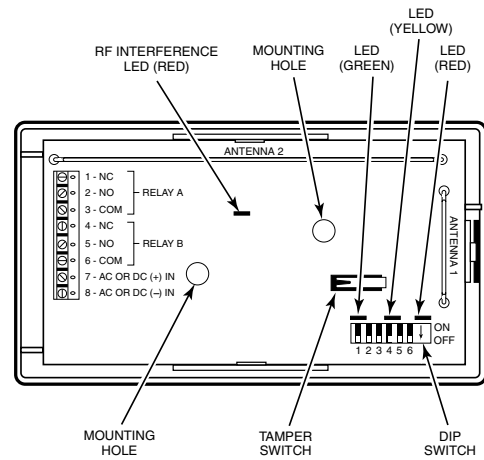

Figure 2. 5800RL Diagram
Use the following guidelines when selecting a mounting location for the 5800RL Relay Module (see Figure 2):
2. Using the 5800RL base as a template, position in the desired location and mark the two mounting holes. See Figure 2 for mounting hole locations.
The 5800RL contains two relays (Figure 2) (SPDT, rated 2A, 28VAC/VDC) that may be used to activate remote sounders and/or remote arm/disarm indicators. There are three LEDs (green, yellow, red) located above the DIP switch and one LED (red) located approximately in the center of the pc board. The LEDs located above the DIP switch, indicate power and relay activity. Refer to Figure 5. The RF Interference LED monitors local radio frequency interference. If this LED is continuously lit, the 5800RL should be relocated.